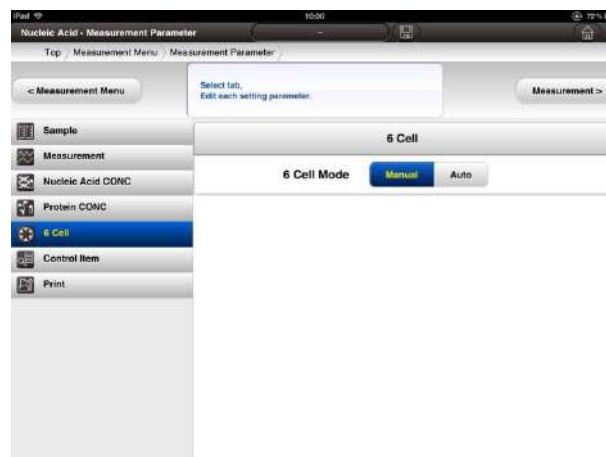

Fig. 4-119 6 cell Conditions Window
(1) Press  [6 cell tab] in order to set the six cell conditions.
(2) The 6 cell conditions window (Fig. 4-119) will be shown.